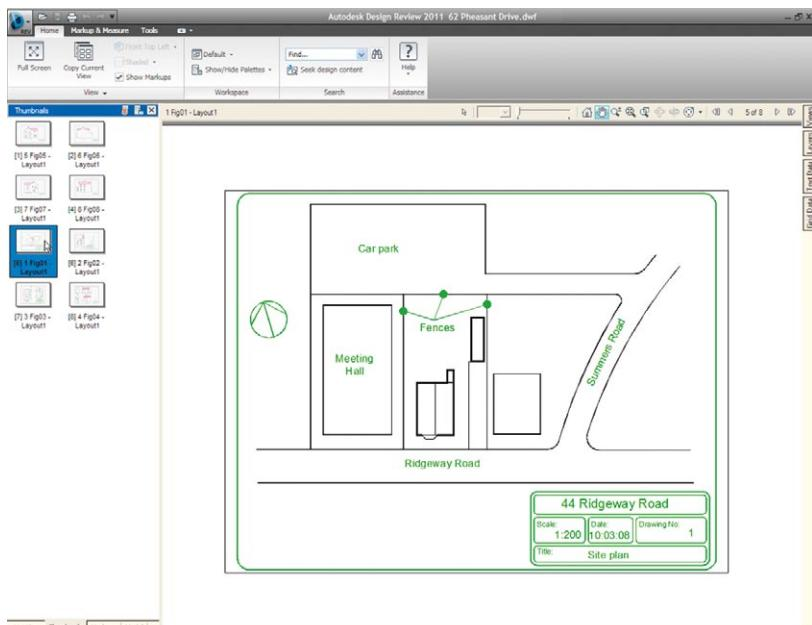

Fig. 11.14 The Autodesk Design Review showing details of the **62 Pheasant Drive.dwf** file
2. The Autodesk Design Review window appears showing the **62 Pheasant Drive.dwf** file (Fig. 11.14). Click on the arrow **Next Page (Page on)** to see other drawings in the DWF file.